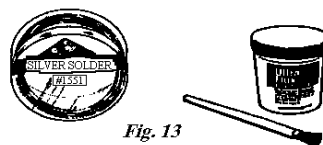

*Fig. 11*
**Single MC-Size Fuel Tank of Acetylene with a Double Tip Torch** – The MC-size single fuel tank of acetylene gas is very portable and easy to use. Two torches are acceptable for use: A double-tip torch heats both sides of the joint at the same time and is less likely to scorch the inside of the tubing; A single-tip Turbo-brand torch equipped with a flame reflector will also heat both sides of a joint and provide a hotter flame. A striker is used to light the torch. (Fig.11)